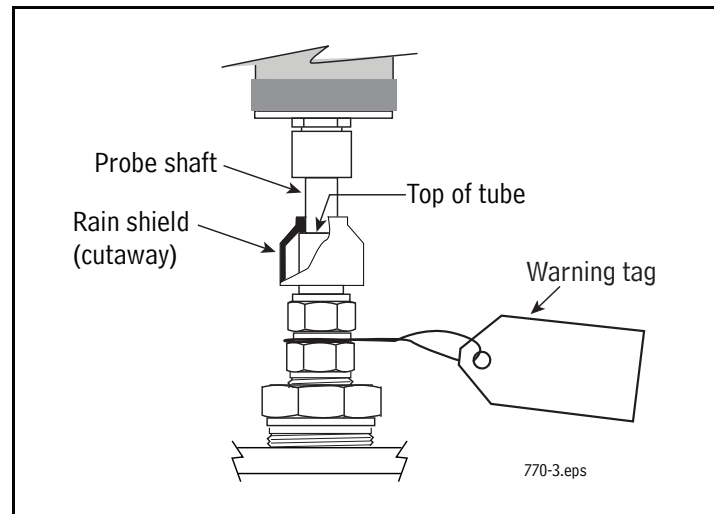

Figure 3. Rain shield installed position.
4. Slide the rubber rain shield onto the probe shaft (narrow end up) and push it all the way up to the probe canister. Gently slide the probe down into the tube until it rests on the bottom of the tube. Slide the rain shield down the shaft until it rests against the top end of the tube. The lower (wide) end of the shield may be a little over the top of the gland nut. Note: the rain shield is intended to keep water out from between the probe's shaft and the inside of the tube so you don't want to force the shield down below the top end of the tube (see Figure 3).